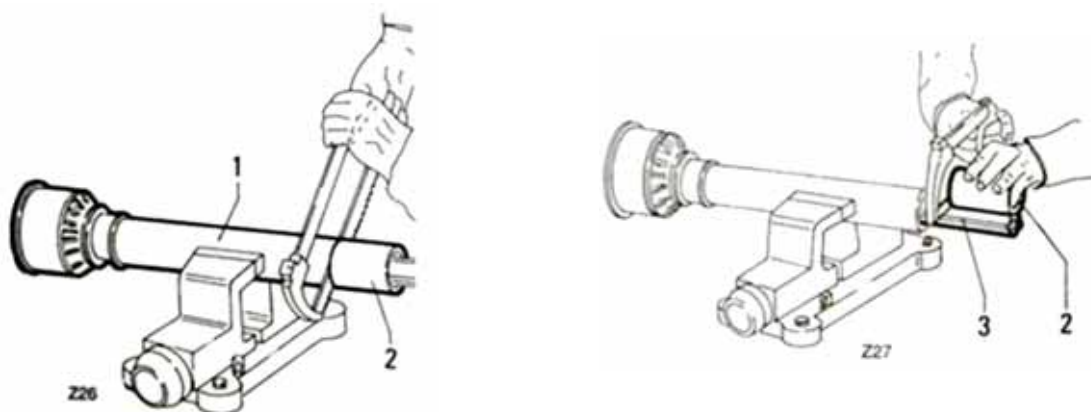

Figure 2
- When sawing part 1 (Figure 2), use the length as shown above.